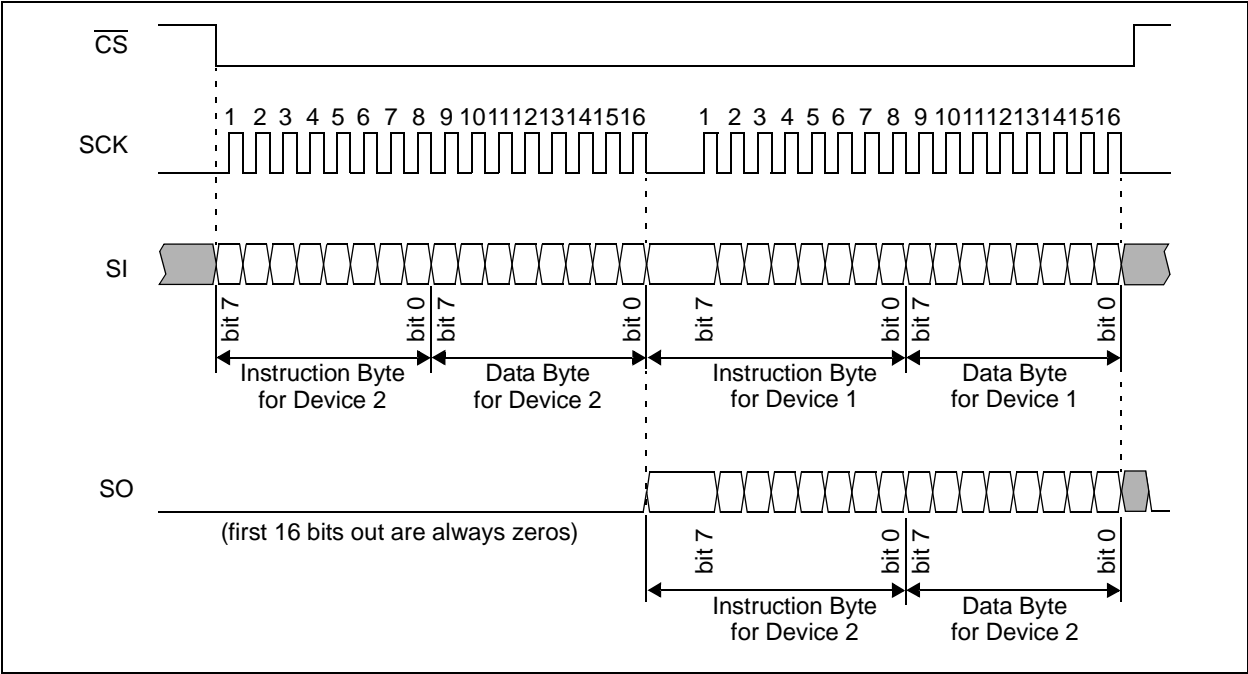
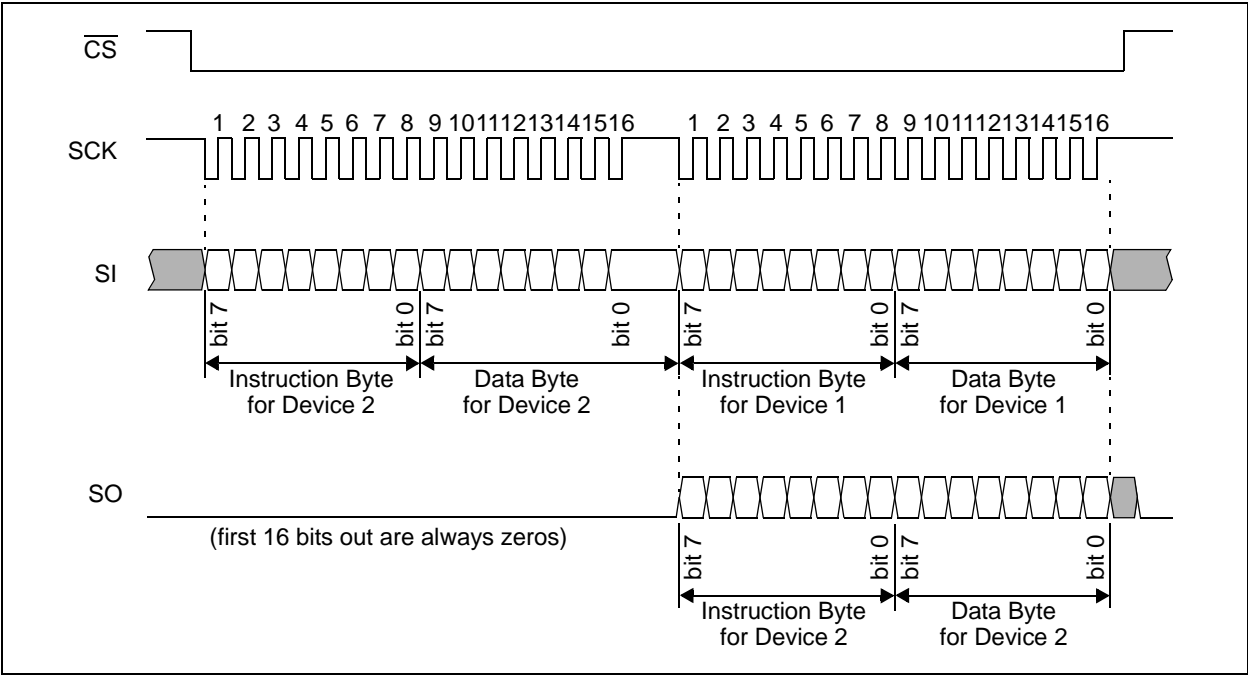

FIGURE 5-4: Serial bus sequence for daisy-chain configuration; SPI 0,0 mode.
FIGURE 5-5: Serial bus sequence for daisy-chain configuration; SPI 1,1 mode.
The example in Figure 5-3 shows a daisy chain configuration with two devices, although any number of devices can be configured this way. The MCP6S21 and MCP6S22 can only be used at the far end of the daisy chain because they do not have a serial data out (SO) pin. As shown in Figure 5-4 and Figure 5-5, both SI and SO data are sent in 16-bit (2 byte) words. These devices abort any command that is not a multiple of 16 bits.